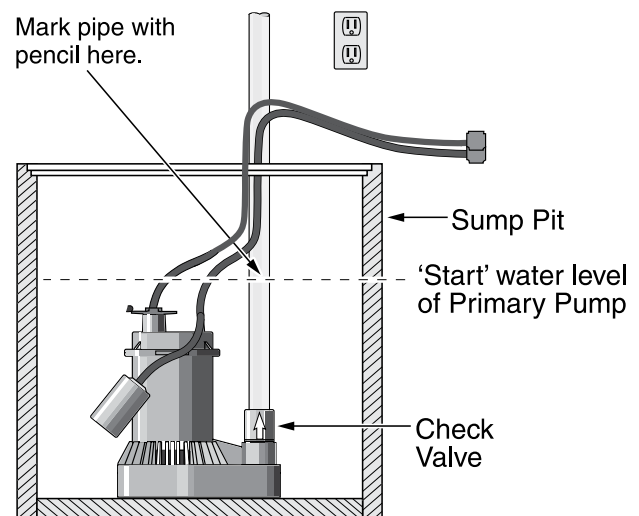

Figure 1: Mark pipe at 'start' water level
1. Locate the high water level in your sump pit (the water level at which the existing (primary) sump pump starts - see Figure 1). Turn off power to pump and mark this point on the discharge pipe with a pencil or marker.
3. If the sump is too small to allow both pumps to sit on the bottom of the sump, install an angle bracket on the primary sump pump's discharge pipe with stainless steel hose clamps. Mount the backup pump on the angle bracket. See Figure 1, "Separate Discharge".
4. Cut a piece of 1-1/2" PVC pipe to reach from the backup pump discharge elbow to about one (1) foot above the basement floor. This is the lower discharge pipe.